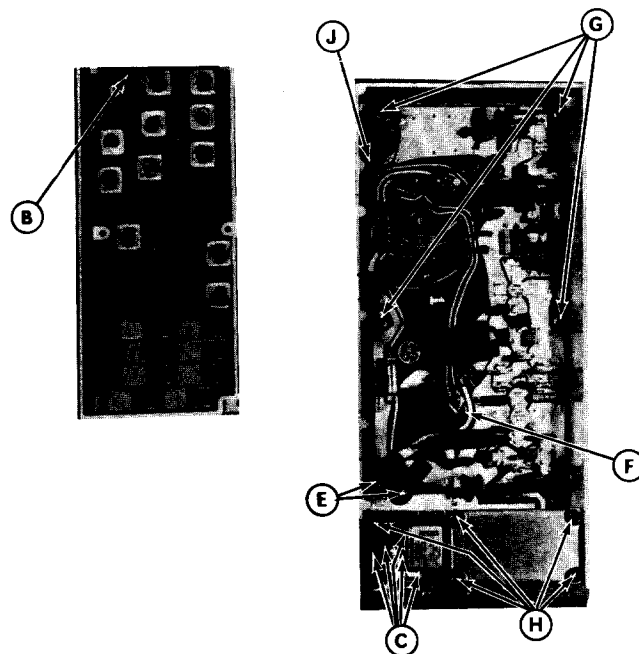

Figure 7 - PA Board Removal
To remove the PA board: Refer to Figure 7.
4. Trim the new transistor leads (if required) to the lead length of the removed transistor. Cut the collector lead at a 45° angle for future identification (see Figure 7). The letter "C" on the top of the transistor indicates the collector.